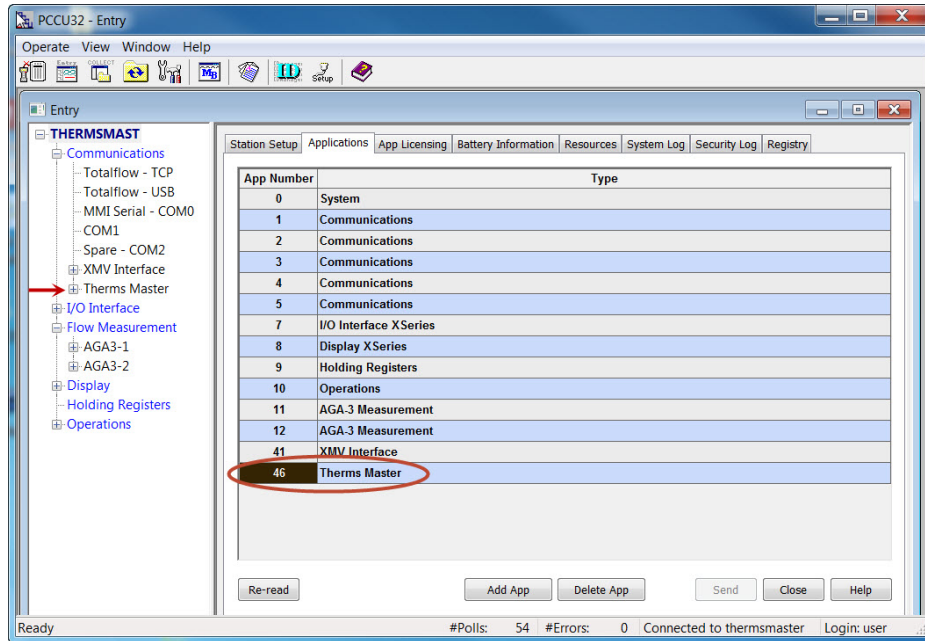

Figure 59. Verify Therms Master is added
- 7) Click *re-read* to verify the application has been added and it now appears in the application list associated with the correct application number. See Figure 59. The application is also added to the configuration tree view on the left and should be added under the “Communications” tree view item.